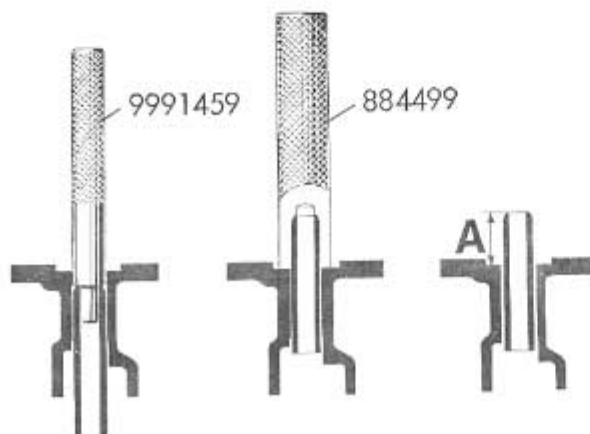

Fig. 12. Data for grinding of valves and valve seats
2. Work the valve seats with a reamer or a grinding stone. Do not grind off too much, just give the seat the right shape and a good mating surface. The seat angle should be 45° and the width 1,5 mm (.06") (see fig. 12). The width is adjusted by using a 30° resp. 60° rear or grinding stone.
3. Clean the valves and grind them in a machine. The seat angle of the valves: 44,5°. The sealing surface is ground just enough to become clean. If less than 1 mm (.04") edge is left on the valve disc, the valve should be scrapped. Also if the stem is bent or if the measure "A", fig. 12, is exceeding 2,5 mm (.10"), the valve should be scrapped. If this measure is exceeded when using a new valve, the cylinder head must be replaced.